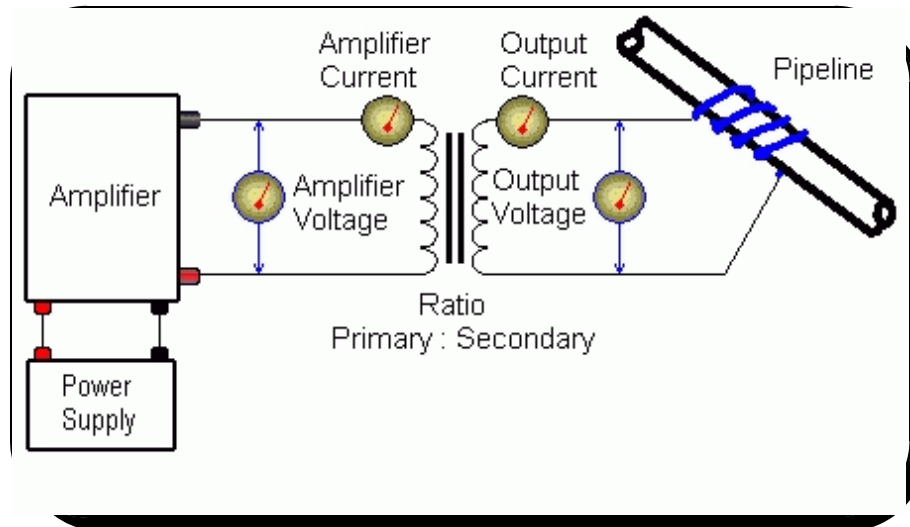

Figure 3. Optional Inductive Coupling
5. **Determine the best way to couple the signal to the pipeline.** It may be to our advantage to implement an inductive coupling rather than direct coupling. See Figure 3.